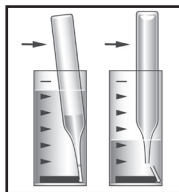

Figure 3
3. Immediately place the ampoule, tip first, into the sample cup and snap the tip. The ampoule will fill leaving a bubble for mixing (fig. 3).